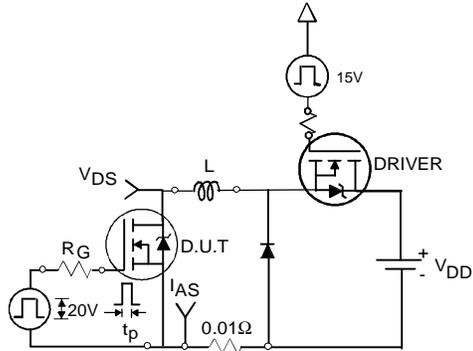

Fig 12a. Unclamped Inductive Test Circuit
3. Equation below based on circuit and waveforms shown in Figures 12a, 12b.
- ④ Pulse width $\leq 400\mu\text{s}$; duty cycle $\leq 2\%$.
- ⑤ C_{OSS} eff. is a fixed capacitance that gives the same charging time as C_{OSS} while V_{DS} is rising from 0 to 80% V_{DSS} . Refer to AN-1001
- ⑥ Calculated continuous current based on maximum allowable junction temperature. Package limitation current is 95A.
- ⑦ Limited by T_{Jmax} , see Fig.12a, 12b, 15, 16 for typical repetitive avalanche performance.